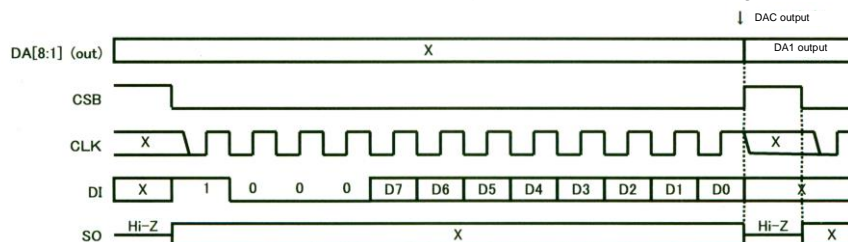

Figure 19
5. D/A Converter Output Setting (Figure 19)